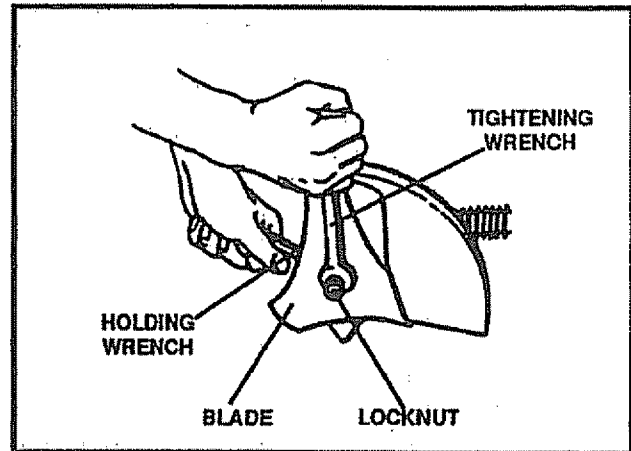

FIG. 12
**CAUTION: WHEN REMOVING OR TIGHTENING THE BLADE NUT, ALWAYS USE THE METHOD SHOWN IN FIGURE 12. THE HOLDING WRENCH MUST ALWAYS BE POSITIONED ON THE NUT BEHIND THE CUTTING BLADE.**
- Remove the 1/2-20 locknut (See Fig. 12) securing the blade to the drive shaft.